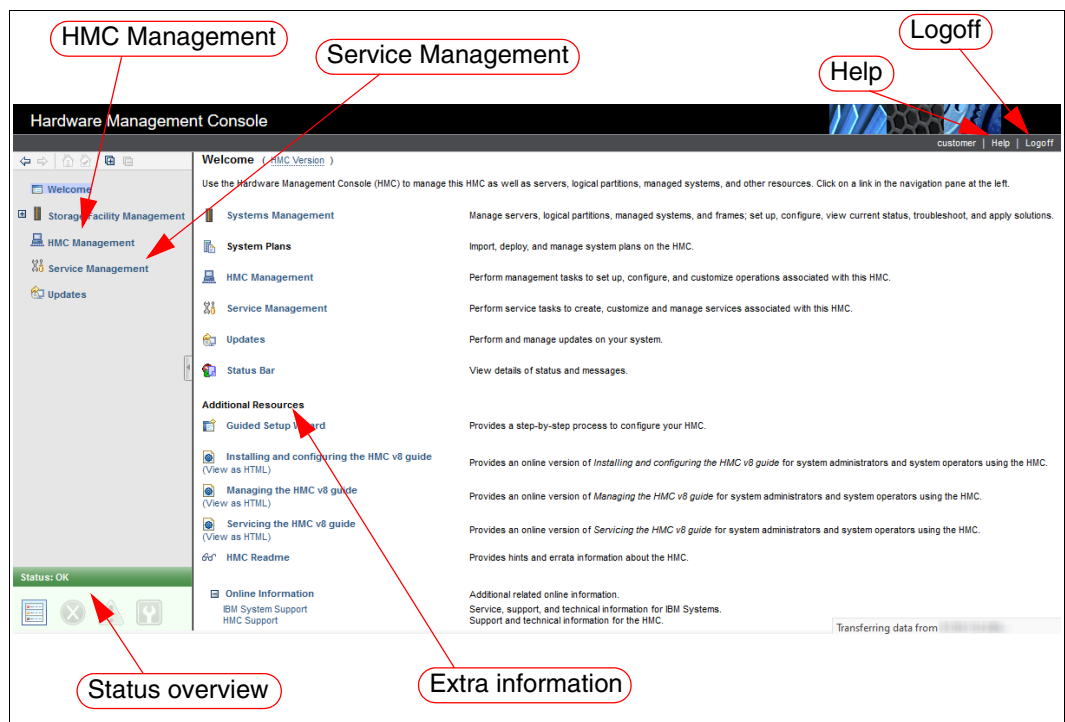

Figure 6-13 Web UI main window
3. If you are successfully logged in, you see the MC window, in which you can select **Status Overview** to see the status of the DS8900F. Other areas of interest are shown in Figure 6-13.